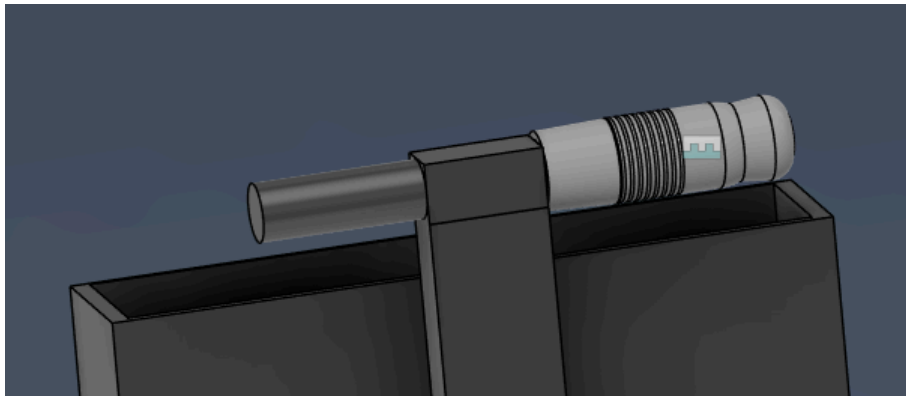

Figure G.10: Handle attached to body
13. Attach the handle to the body using PLA glue as shown in Figure G.10.